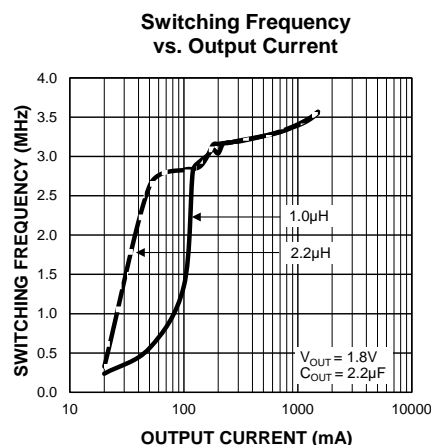

Figure 4. SW Frequency vs. Output Current
As shown in Equation 5, the load at which the MIC23156 transitions from HyperLight Load mode to PWM mode is a function of the input voltage (V_{IN}), output voltage (V_{OUT}), duty cycle (D), inductance (L) and frequency (f). As shown in Figure 4, as the output current increases, the switching frequency also increases until the MIC23156 goes from HyperLight Load mode to PWM mode at approximately 200mA. The MIC23156 will switch at a relatively constant frequency around 3MHz once the output current is over 200mA.